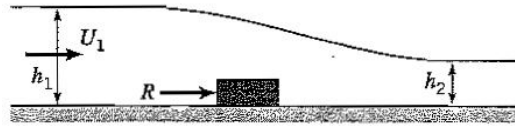

Figure P10.60
10.60 An open channel flow of constant width W flows over a small obstruction, as shown in Figure P10.60. Show that